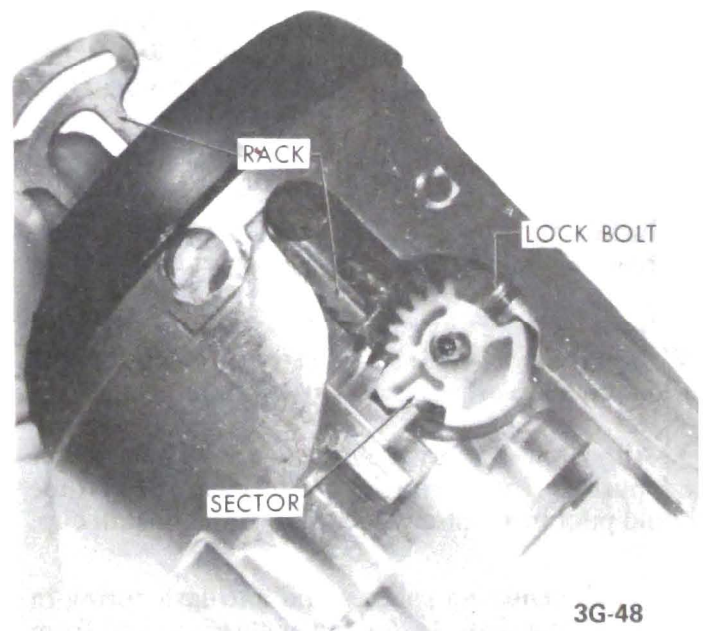

Figure 3G-68 - Engaging Block Tooth on Rack to Sector
5. Install lock bolt and engage with sector cam surface. See Figure 3G-68.